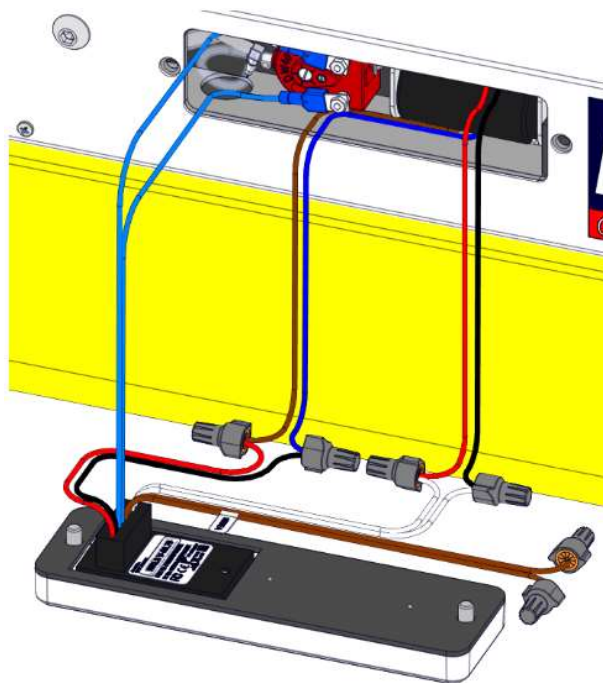

Figure 6
15. Flip the Ry-Wi over and remove the blue wires from the air switch, and the red and black wires from the white wires on the Ry-Wi. (See Figure 6)